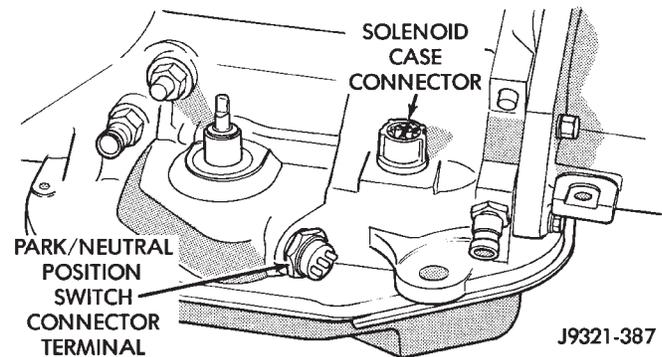
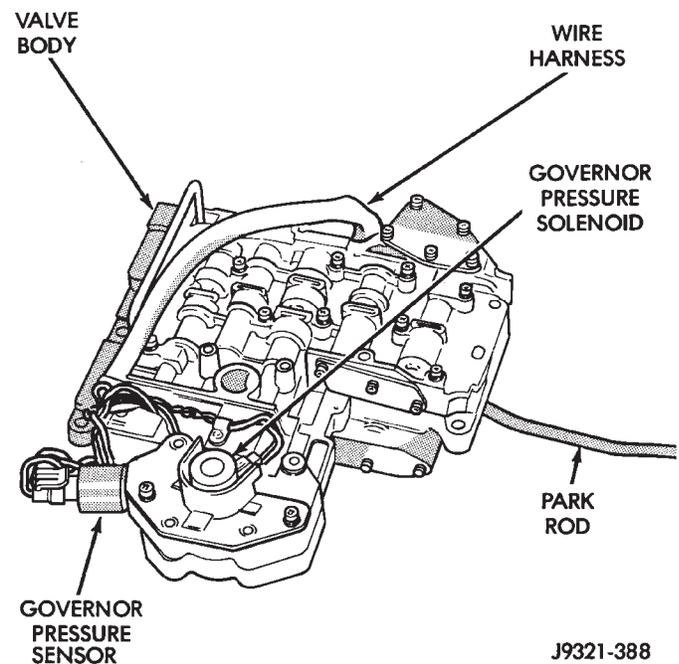

Fig. 53 Transmission Case Connector
Fig. 54 Valve Body
- (1) Shift transmission into NEUTRAL.
- (2) Raise vehicle.
- (3) Remove gearshift and throttle levers from shaft of valve body manual lever.
(4) Disconnect wires at solenoid case connector (Fig. 53).
(5) Position drain pan under transmission oil pan.
(6) Remove transmission oil pan and gasket.
(7) Remove fluid filter from valve body.
(8) Remove bolts attaching valve body to transmission case.
(9) Lower valve body enough to remove accumulator piston and springs.
(10) Work manual lever shaft and electrical connector out of transmission case.
(11) Lower valve body, rotate valve body away from case, pull park rod out of sprag, and remove valve body (Fig. 54).